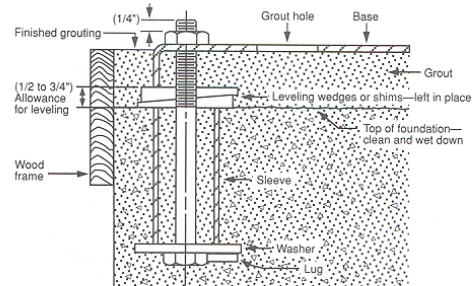

Figure 1
**2.3.1.** Bedplate must be grouted to a foundation with solid footing. Refer to Fig. 1.